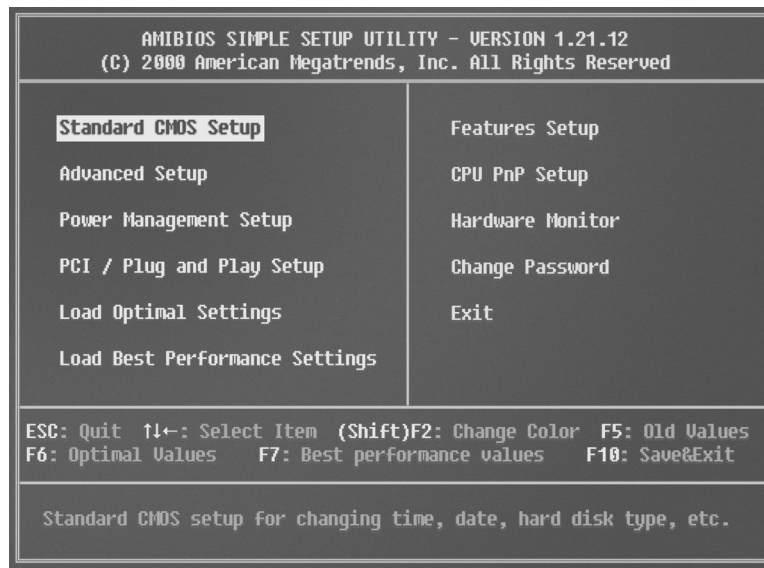

Figure 7-2: Accessing the CMOS setup routine
1. If necessary, turn on the computer, and access the CMOS setup routine (also referred to as the BIOS setup program or BIOS screen). The CMOS setup routine is available for only a short time during the book sequence. Most computer manufacturers tell you how to enter the CMOS startup screen as the computer is booting, typically by pressing a specific key combination, such as F2 or Ctrl +F1. The initial screen typically displays a menu of configuration categories, each of which lead to one or more additional menu screens and options (Figure 7-2). Select the **Drive Configuration** option and press the Enter key. Record the information that appears.